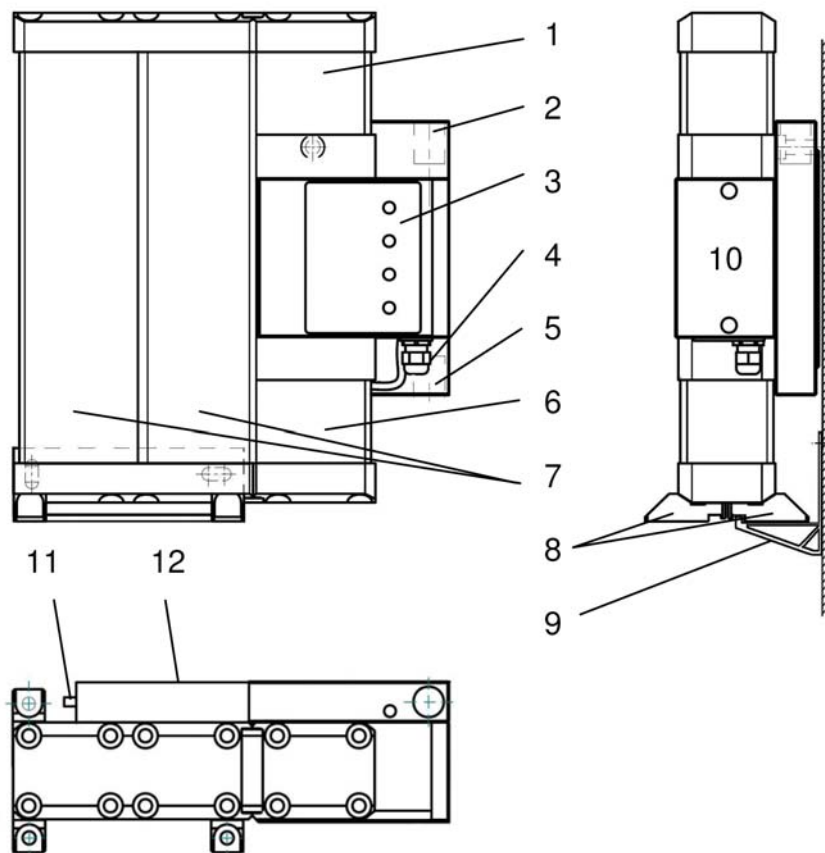

Fig. 1-1
- Open condensate drain (8) and (9) → Fig. 1-1 Layout (Page 1) discharge the condensate